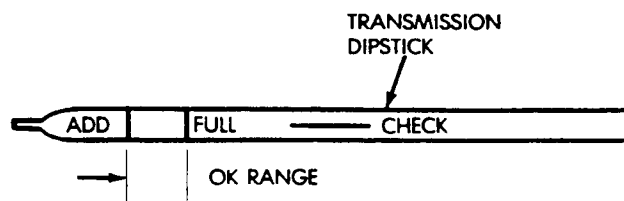

Fig. 1 Transmission Fluid Level
(1) Be sure transmission fluid is at normal operating temperature. Normal operating temperature is reached after approximately 15 miles (25 km) of operation.
(2) Position the vehicle on a level surface. This is important for an accurate fluid level check.
(3) Shift the transmission through all gear ranges and back to Neutral.
(4) Apply the parking brakes.
(5) Verify that the transmission is in Neutral.
(6) Wipe off the dipstick handle to prevent dirt from entering the fill tube. Then remove the dipstick and check fluid level and condition.
(7) Correct fluid level is **to the FULL mark on the dipstick when the fluid is at normal operating temperature** (Fig. 1).
(8) If fluid level is low, top off the level with Jeep Mercon™, transmission fluid. Mopar Dexron II™ may also be used if Mercon is not available. **Do not overfill the transmission. Add only enough fluid to bring the level to the FULL mark.**